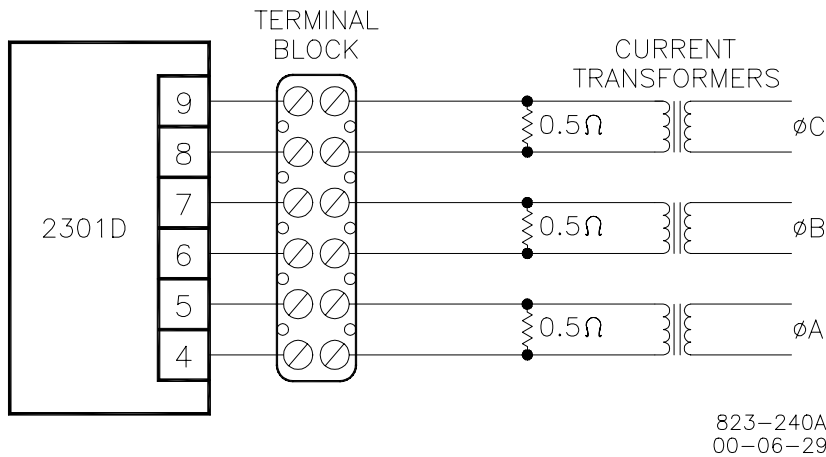

Figure 4-7. Temporary Wiring for Transformer Phase Correction
The Phase Correction Procedure requires that the prime mover be shut down many times to disconnect the current transformers. For convenience, a temporary method of connecting the current transformers shown in Figure 4-7 is recommended. Connecting a 0.5  $\Omega$ , 20 W burden resistor across each current transformer allows the current transformers to be disconnected from the terminal strip with the prime mover running, after removing all load.
**The current transformers can develop dangerously high voltages. Do not disconnect a current transformer while the prime mover is running unless temporary 0.5  $\Omega$ , 20 W resistors are installed as shown in Figure 4-7, and all load is removed.**
If the temporary burden resistors described above and shown in Figure 4-7 are not used, the prime mover **MUST** be shut down in addition to removing the load in the following procedure.
**The current transformers can develop dangerously high voltages. Do not disconnect a current transformer while the prime mover is running unless temporary 0.5 Ω, 20 W resistors are installed as shown in Figure 4-7, and all load is removed.**